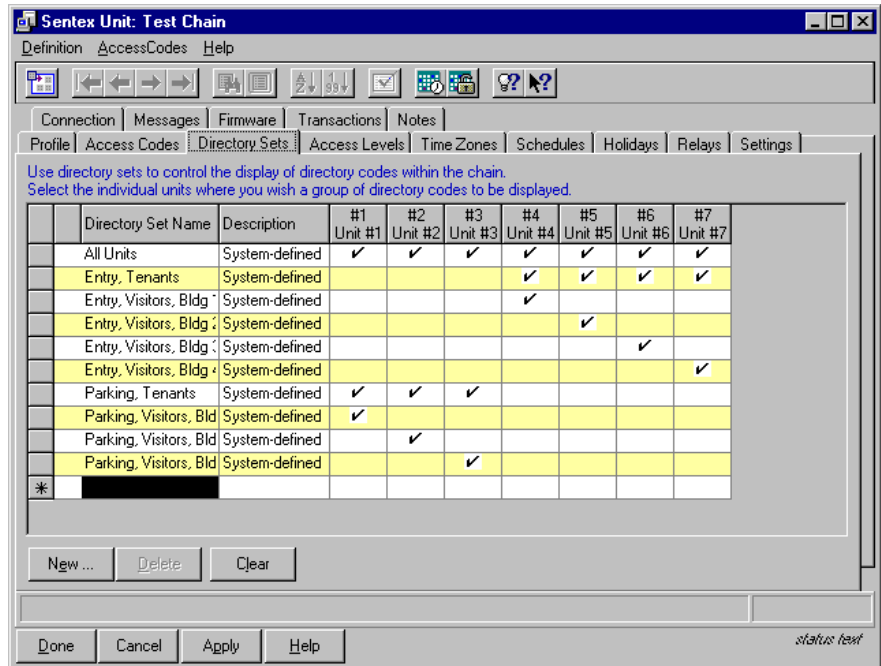

Figure 45: Unit Definition Window Directory Set Page
**NOTE:** In the example shown in Figure 45, any directory code assigned to the directory set named Entry Tenants will be displayed at units 4, 5, 6 and 7.